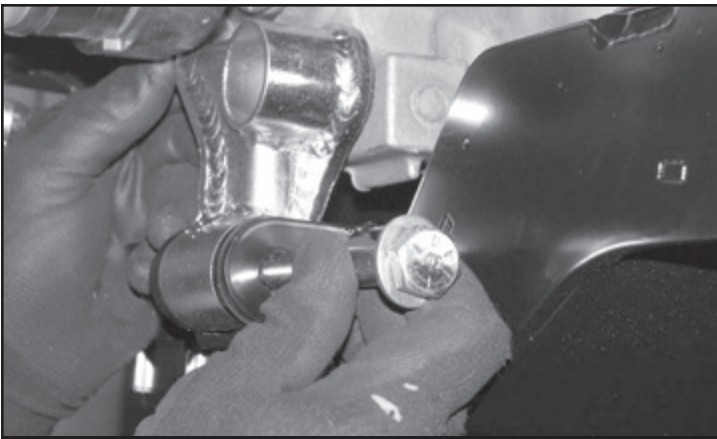

FIGURE 33 - STEP 30
30. Install the rear diff bracket into the tabs on the rear crossmember using a 1/2-13x4" bolt, washers, and nut. **SEE FIGURE 33**